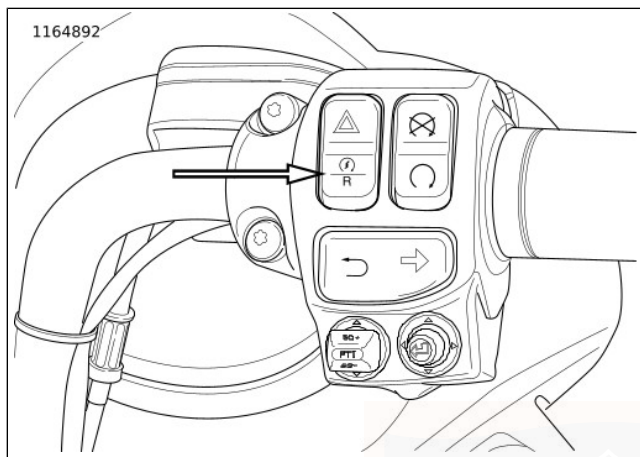

Figure 41. Reverse Switch (typical)
2. See Figure 41. With the vehicle started and in neutral, press and hold the reverse switch in the right side controls until the reverse lamp illuminates. **FLHTCUTG:** The lamp in the tachometer indicates that the reverse is enabled. See Figure 20. **FLRT:** The lamp in the speedometer indicates that the reverse is enabled. See Figure 21. Release the reverse switch. The neutral lamp turns off when the reverse lamp turns on.